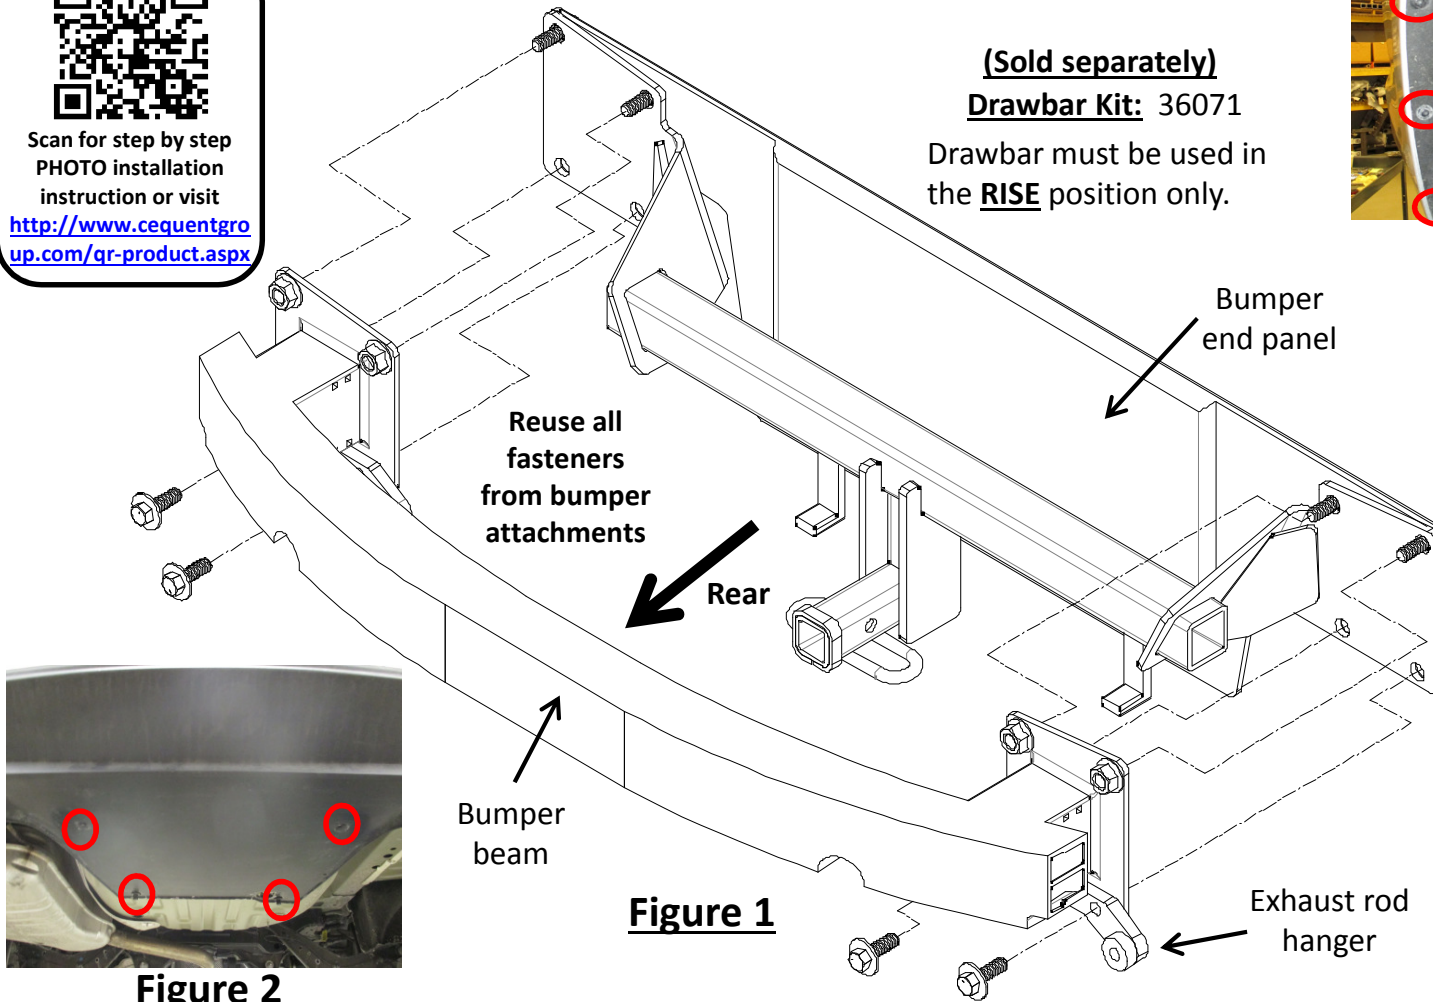

Figure 1
3. Hitch installation – raise the hitch and align top 2 holes on the hitch to the studs on the end panel. Raise the bumper beam and exhaust rod hangers to sandwich the hitch, see Figure 1. Reuse the flange nuts and bolts to loosely fasten them.